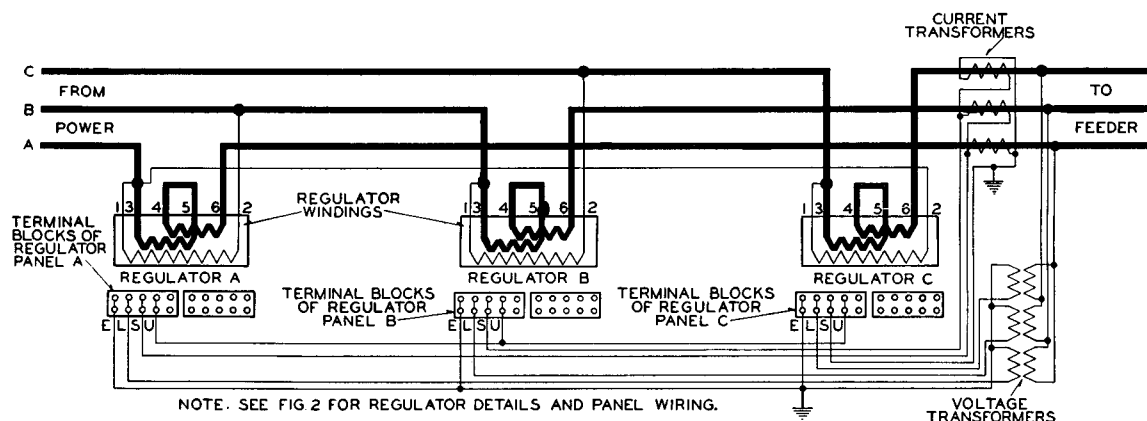

FIG. 21—DIAGRAM OF CONNECTIONS FOR THREE SINGLE-PHASE REGULATORS ON A THREE-PHASE, THREE-WIRE CIRCUIT
96. Diagram, Fig. 21 shows the connections for three single-phase indoor regulators on a three-phase three-wire circuit. For outdoor type see Fig. 27. Since a voltage relay on each phase is used, practically perfect regulation can be obtained. Three three-phase compensators and three current transformers are required, or single-phase compensators and current transformers with extended secondary winding.